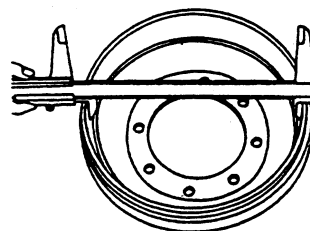

Fig. 2-21
(5) Check the condition of the brake drum's inner surface. If any damage or excessive wear is found, repair by machining or replace it. See Fig. 2-21.